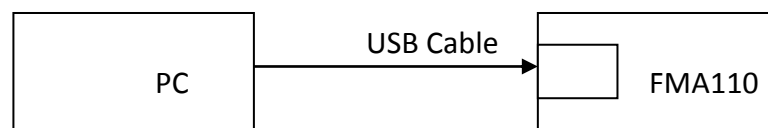

Figure 58 Connect FMA110 to PC and configure
2. Disconnect LV-CAN200 or ALL-CAN300 from FMA110, and connect PC USB cable to FMA110 Device (Figure 58). It is very important not to disconnect FMA110 from power source, because then all CAN data will be lost.